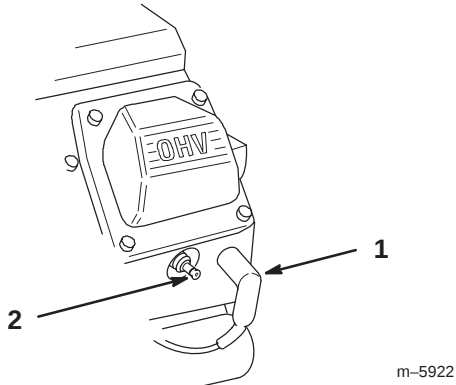

Figure 40
3. Pull the wires off of the spark plugs (Fig. 40).
3. Push the wires onto the spark plugs (Fig. 40).